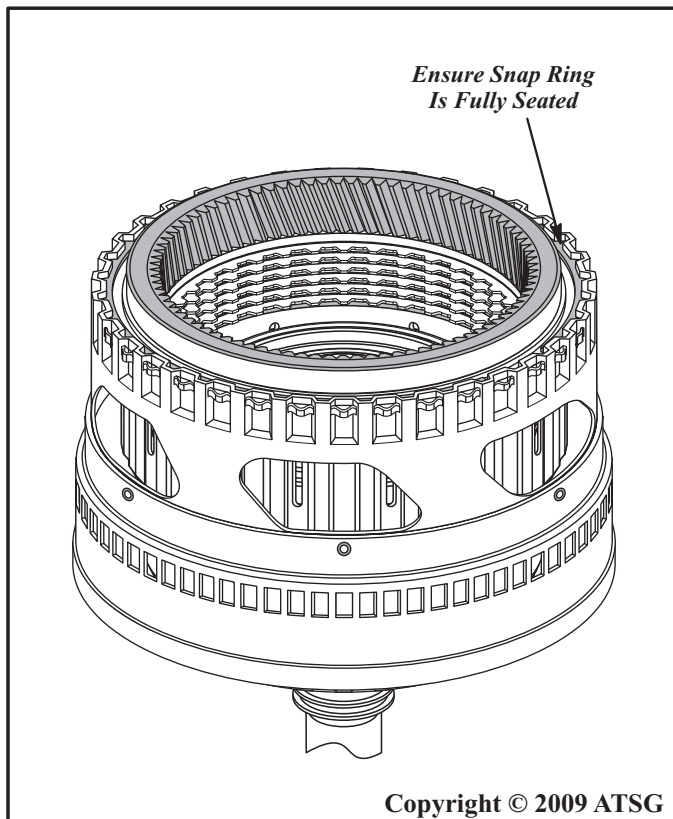

Figure 119
37. Ensure that the snap ring is fully seated, as shown in Figure 119.